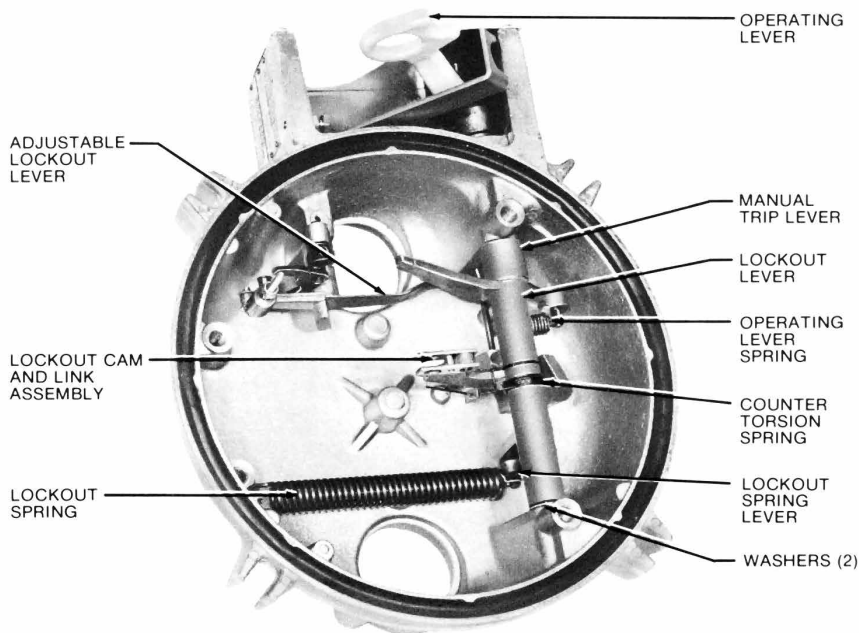

**Figure 33. Head operating mechanism**
2. Figure 33 shows a head assembly as it appears after the arc-interrupting structure, series-trip solenoid, hydraulic mechanism, insulating stringers and bushings have been removed. Remove self-locking nut and four hexcap screws indicated in Figure 33. Note use of flat washer under cap screw nearest the operating lever. Also note that two pipe spacers will be released.
5. Connect the solenoid plunger and contact rod to the operating mechanism. Bolt the operating mechanism in the position shown in Figure 33.